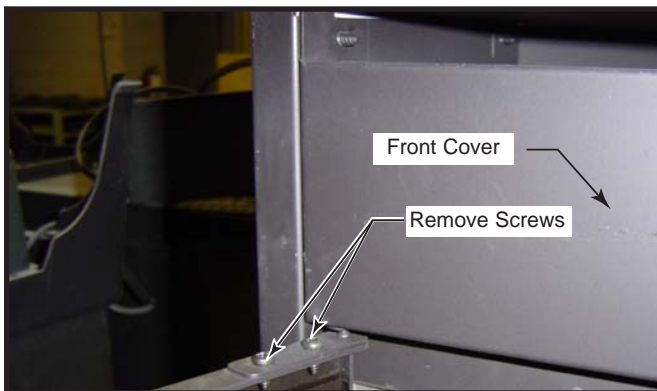

Fig. 1 Remove screws holding door at top.
3. Remove fixed front panel, or open doors (depending on model). If the model has operable glass or mesh doors, completely remove them from the unit before proceeding. To remove the doors, locate and remove the two (2) screws holding the door at the top. (Fig. 1) Hold the door at all times with one hand to prevent the door from falling when you undo the hinge screws.